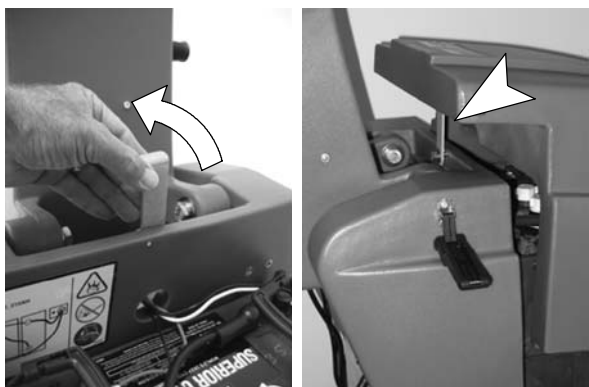

FIG. 23
6. Flip up hood support stand and rest hood on stand to promote ventilation (Figure 23).